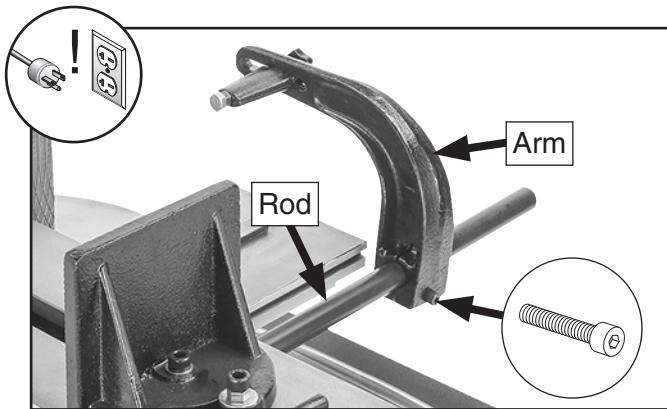

Figure 53. Location of work stop arm and rod.
2. Loosen cap screw shown in **Figure 53** to remove arm from rod.